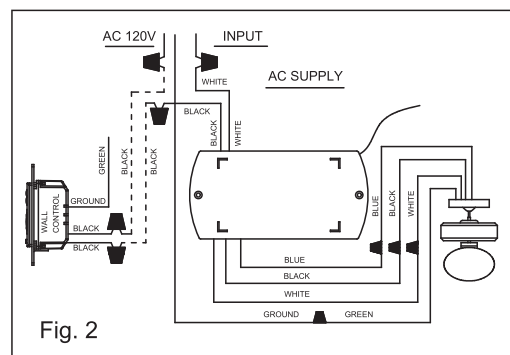

Fig. 2
Step 2. Make the electrical connections as shown in Fig.2. If your outlet box has a ground wire (Green or Bare Copper) connect the Wall Transmitter's ground wire to it. Otherwise connect the Wall Transmitter's wire directly to one of the screws from the outlet box . Secure all wire connections with the plastic wire nuts provided.